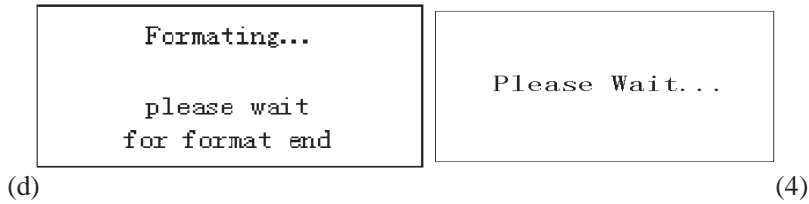

Figure 6: Formatting SD card
- 1 In MENU, press the UP or DOWN key until the system enters into the format menu, as shown in Fig. 6(a) and 6(1).
- 2 Press the OK key. The system will ask you to confirm, as shown in Fig. 6(b) and 6(2).
- 3 If you want to proceed the formatting process, press the RIGHT key to change the value to 『YES』. 『YES』 will be highlighted, as shown in Fig. 6(c) and 6(3).
Press the OK key to start formatting the SD card. During formatting, the guide information will be changed, as shown in Fig. 6(d) and 6(4).